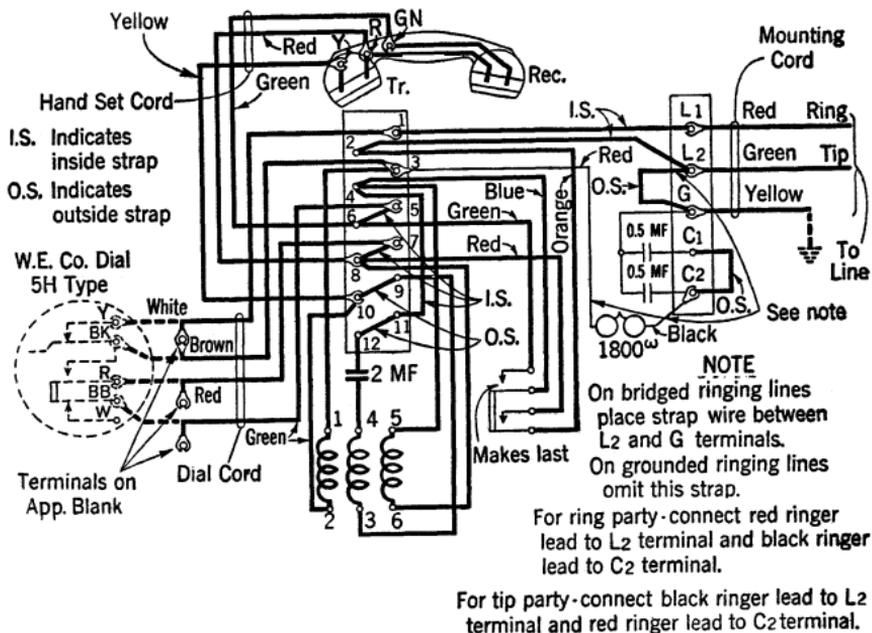

Fig. 1
2.01 These sets are in general similar to the 302 type telephone sets shown in Section C32.502, Figs. 1 and 2 and are used at common battery anti-sidetone stations on non-polarized ringing lines of the following classes of service:
2.02 For individual lines and regular P.B.X. stations a two conductor mounting cord between the connecting block and the set is required. As these sets are furnished with a three conductor cord the additional conductor at the connecting block end should be connected to terminal Y of the 42A connecting block but no ground wire should be connected to the Y terminal. For grounded ringing lines the third conductor of the mounting cord is used to bring a ground into the set. (See Fig. 1.)
3.01 The connections for these telephone sets are shown in Fig. 1.
3.02 The diagram in Fig. 1 shows the line and ringer connections for bridged ringing lines. Line and ringer connections for bridged and grounded ringing lines of the classes of service for which the set is used are given in Table 1.
5.07 The plunger and switch contact spring assembly is somewhat similar to Fig. 1, Section C32.575 except the contacts are of the point and disc type instead of the bar type.